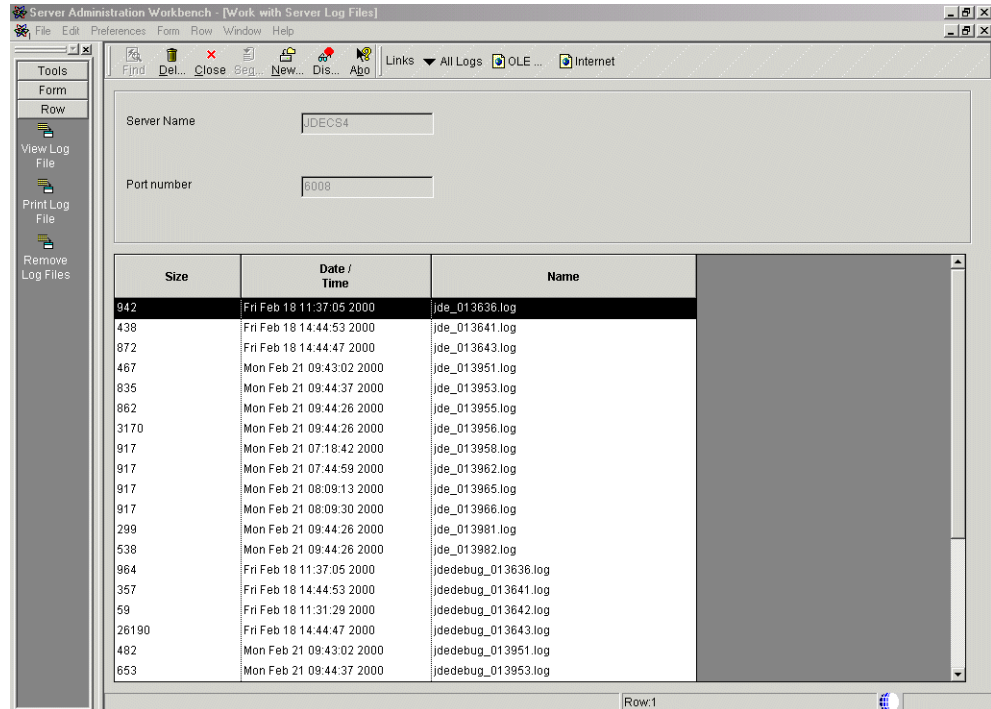

Figure 331. View log file
- Highlight the appropriate log file, and click **View Log File** on the Row menu (Figure 331).